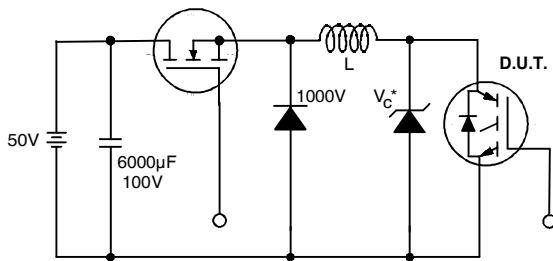

Figure 19. Clamped Inductive Load Test Circuit
- ② $V_{CC} = 80\%(V_{CES})$, $V_{GE} = 20V$, $L = 10\mu H$, $R_G = 100\Omega$, (See fig. 19).
- ③ Pulse width $\leq 80\mu s$; duty factor $\leq 0.1\%$.
- ④ Pulse width $5.0\mu s$, single shot.